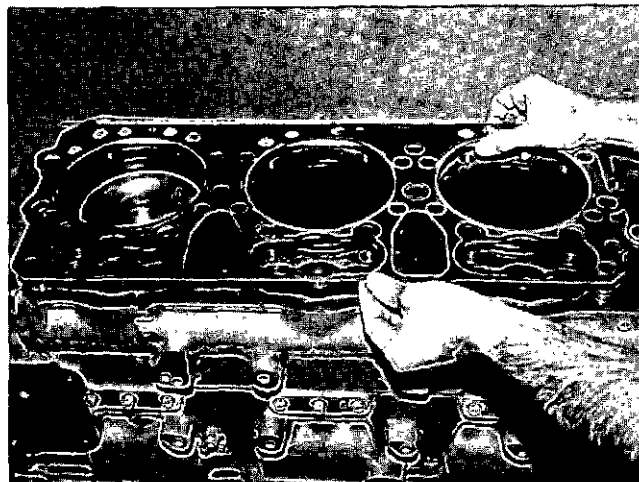

Fig. 14-1-38, V414140. Installing cylinder head gasket
3. Install head gasket over dowels so word "top" on gasket is visible. Fig. 14-1-38.